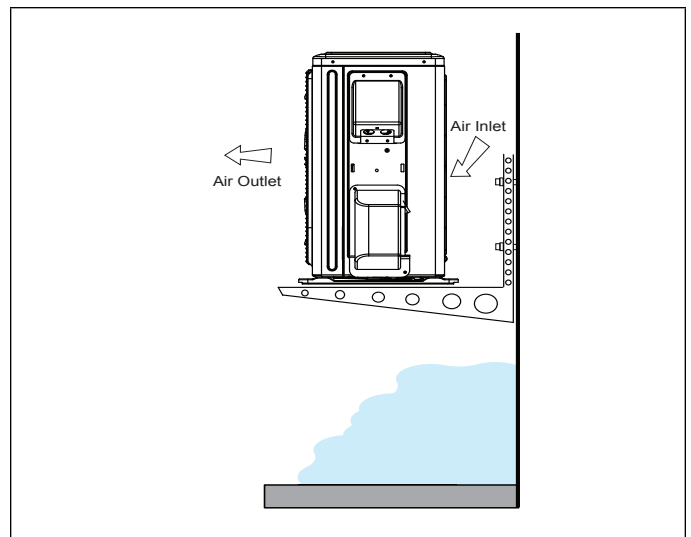

Figure 25. Outdoor Unit on Brackets above Snow Line
- The unit base should be elevated above the depth of average snows as illustrated in “Figure 25. Outdoor Unit on Brackets above Snow Line”